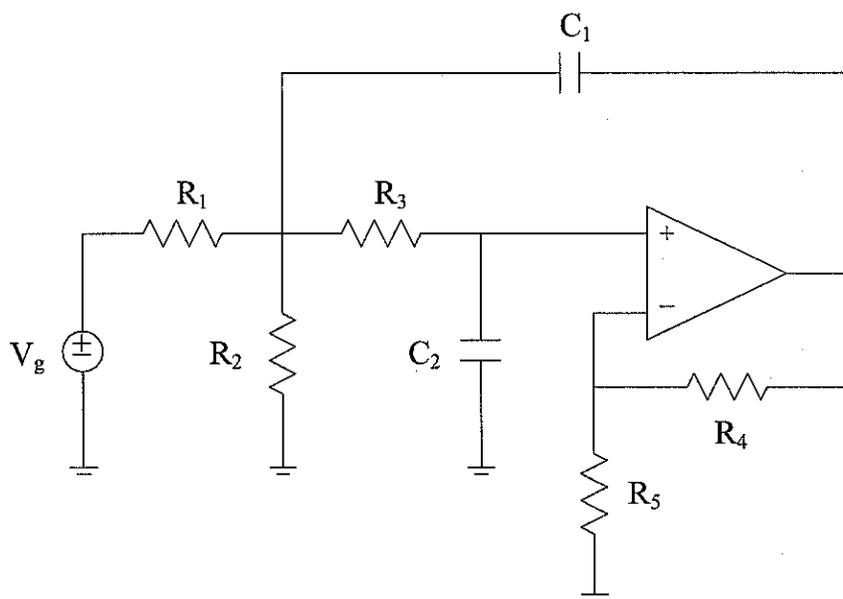

Fig. 1. A test circuit for transient analysis.
**Problem 4.** If the elements of the circuit in Fig. 1 are chosen as
**Problem 6.** Using equations (1)-(4), design  $R_1$ ,  $R_2$ , and  $R_3$  so that the peak overshoot of the circuit in Fig. 1 is *no larger than* 10%. Use the m-file developed in Problem 2 to verify your design.